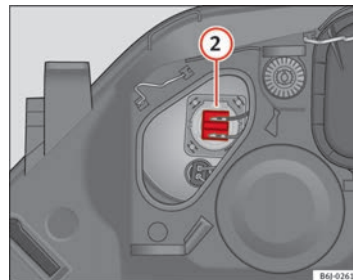

Fig. 151 Main beam headlights
- Remove connector ⇒ Fig. 151 ② by pulling outward.